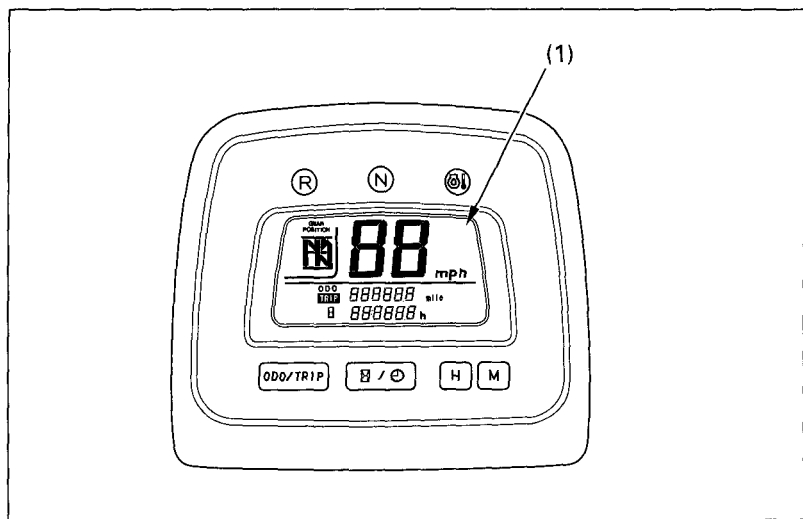

Fig. 2-15 (1) Multi-function display
When the ignition switch is turned ON ( I ), the display (1) (Fig. 2-15) will temporarily show all the modes and digital segments so you can make sure the liquid crystal display is functioning properly.